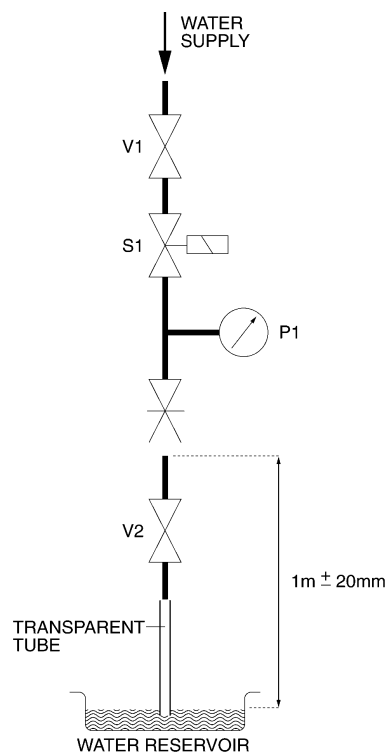

FIG 67
- (1) Mount the device in the test system in its normal working position. (Reference Figure 67).
- (2) With 'S1' open, adjust 'V1' and 'V2' together to achieve $10 \text{ bar} \pm 0.5 \text{ bar}$ at 'P1' with a flow velocity of $1 \text{ m/s} \pm 0.1 \text{ m/s}$ at the inlet to the hose union backflow preventer.
- (3) Arrange the pilot valve to be controlled automatically to give the above conditions for $4 \text{ seconds} \pm 0.5 \text{ seconds}$. The opening of the pilot operated solenoid valve S1 shall create no pressure peaks greater than 10 bar.